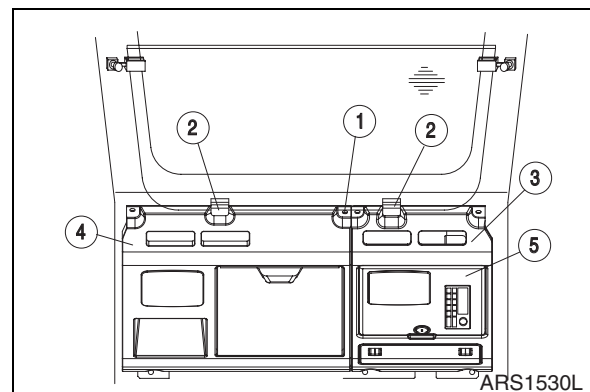
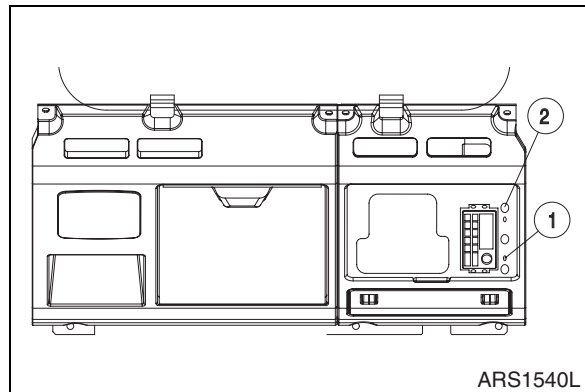

Figure 4
Figure 5
18. Remove cover (5, Figure 4) on left side dash cover (3) and bolts (1, Figure 5).
19. Remove two rubber stops (2, Figure 4) used in storing the front lower glass. Remove bolts (1) from the rear left and right dash covers. Remove left side cover (3).
20. Lift right side dash cover (4, Figure 4) and disconnect speaker wire. Remove cover.
21. Remove three bolts (2, Figure 5) after disconnect speaker wire and antenna wire. Remove stereo assembly.